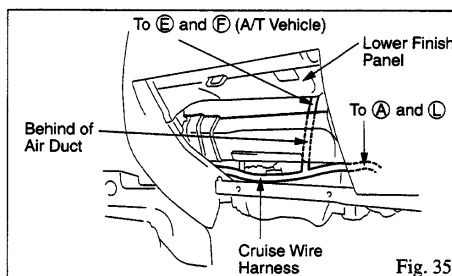

Fig. 35
- (11) Route the wires around the passenger's side glove box as shown in the figure. (Fig. 35)